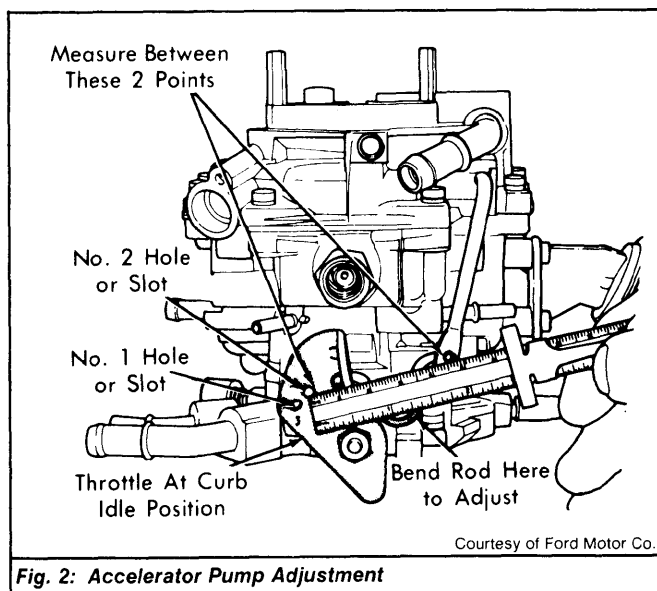

Fig. 2: Accelerator Pump Adjustment
1) Make sure accelerator pump rod is in correct slot Chrysler Corp. (correct hole on Ford Motor Co.). See Fig. 2.
- 2) Place throttle lever in curb idle position. Measure accelerator pump distance between center of rod in throttle lever to center of rod in accelerator pump arm. See Fig. 2. To adjust, bend existing loop in accelerator pump operating link.